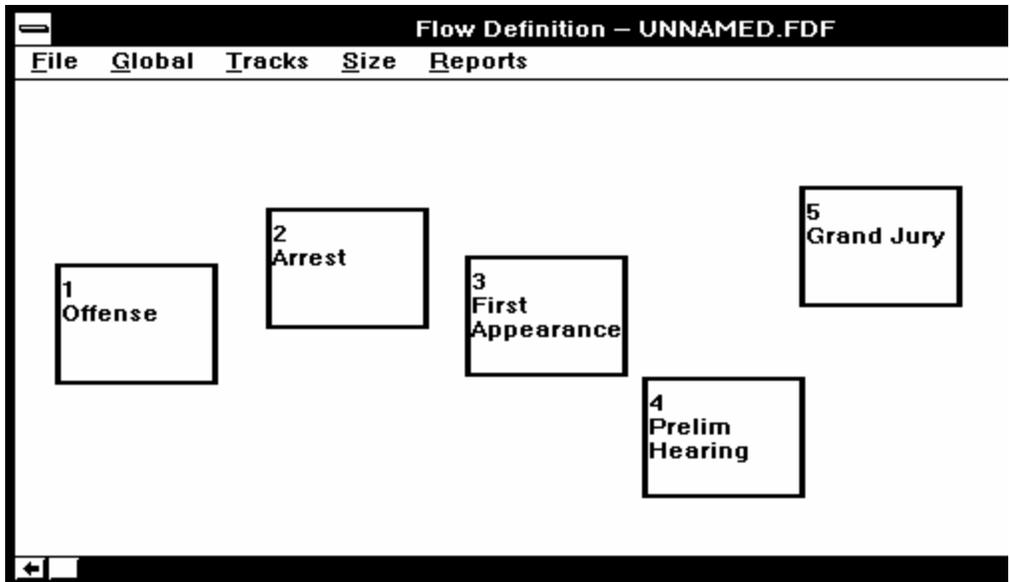

Figure 5-9. Creating and naming the first six stages.
4. Repeat steps 1 through 3 for our six stages. Your screen will look something like Figure 5-9.